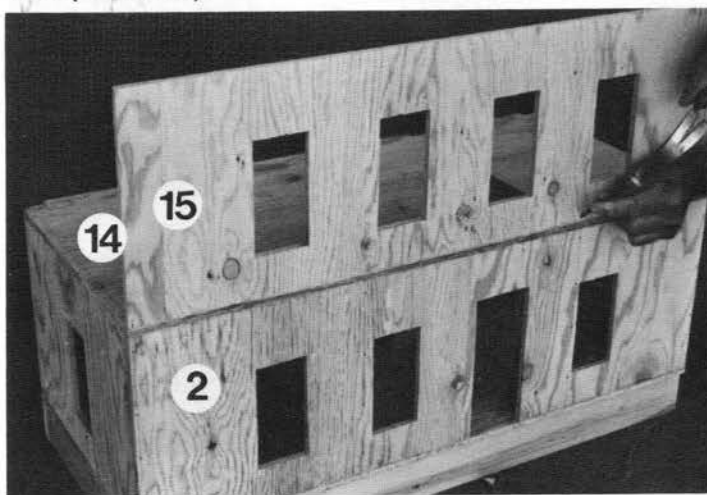

Fig. 7
STEP 6: Glue floor 14 down onto all the first floor walls, be especially careful to get all first floor walls perfectly plumb, and all exterior joints neat and flush. Install rear wall 15 (using the combination glue method), once wall 15 is firmly glued use the "toe-nailing" method to install wire nails (#18 7/8 inch) at 4 inch intervals. Be careful about nails coming through the ceiling of the first floor. (FIGURE 7).